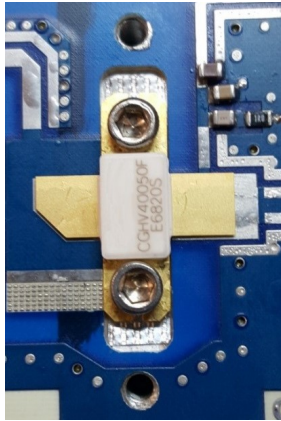
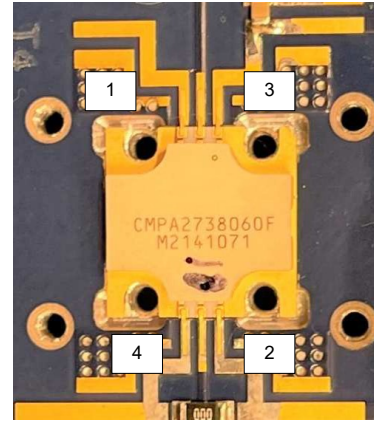

Figure 4
Figure 5
6. Place transistor on top of the indium and using a 40 in-oz torque screwdriver carefully screw down the transistor making sure the transistor leads align with the PCB RF traces as shown in **Figure 4**. For CMPA package type 440219, 440222, 440226, 440225, and 440217 there are 4 screw holes. Loosely screw down the transistor in order from 1-4 as shown in **Figure 5**. Follow this up by using a torque screwdriver and carefully tighten the screws completely.